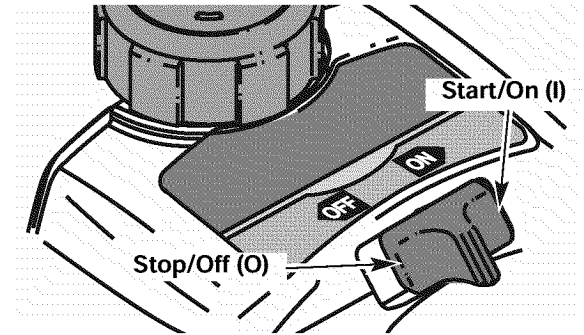

Fig. 7
2. Put the On/Off Stop Control in the **ON (I)** position (Fig. 7).
2. Put the On/Off Stop Control in the **OFF (O)** position (Fig. 7).